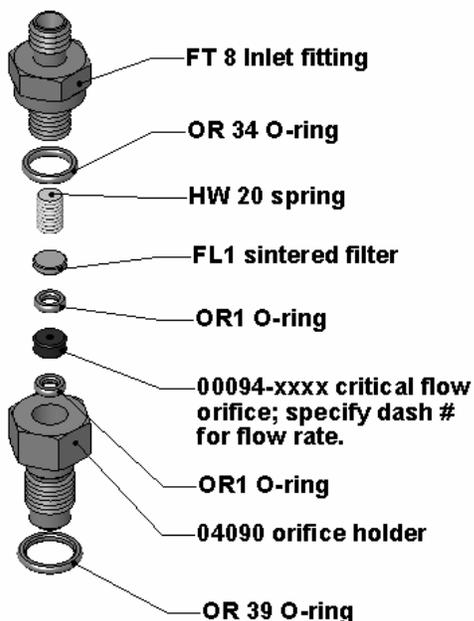

Figure 9-4: Critical Flow Orifice Assembly
- For orifices on the reaction cell: Unscrew the orifice holder with a 9/16" wrench. This part holds all components of the critical flow assembly as shown in Figure 9-4. Appendix B contains a list of spare part numbers.
- For orifices in the vacuum manifold: the assembly is similar to the one shown in Figure 9-4, but without the orifice holder, part number 04090, and bottom O-ring OR34 and with an NPT fitting in place of the FT 10 fitting. After taking off the connecting tube, unscrew the NPT fitting.
- Re-assemble the parts as shown in Figure 9-4 and re-connect them to the reaction cell manifold or the vacuum manifold.